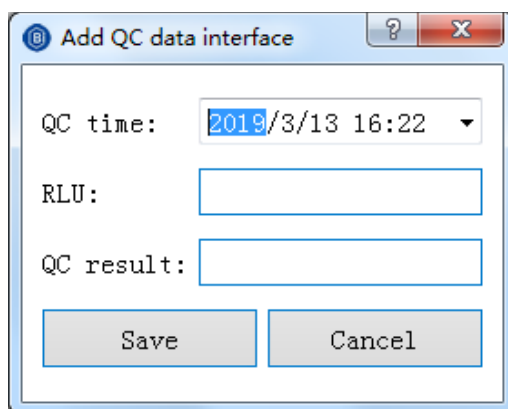

Figure 8.6.13 Add QC data
- Click **Add** and the **QC data addition** interface will pop up, as shown in Figure 8.6.13.